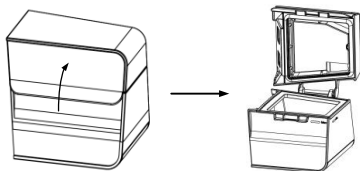

Fig. 18-1
(1) **Opening the Water Chamber:** Open the cap of the water chamber, as shown in Fig. 18-1.